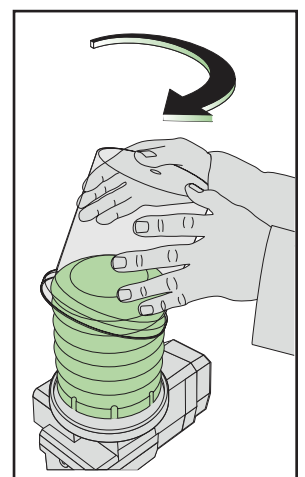

fig.9
5. Clean the cover, position it on the cartridge (Fig 9) and screw it onto the pump by rotating it to the right (clockwise).